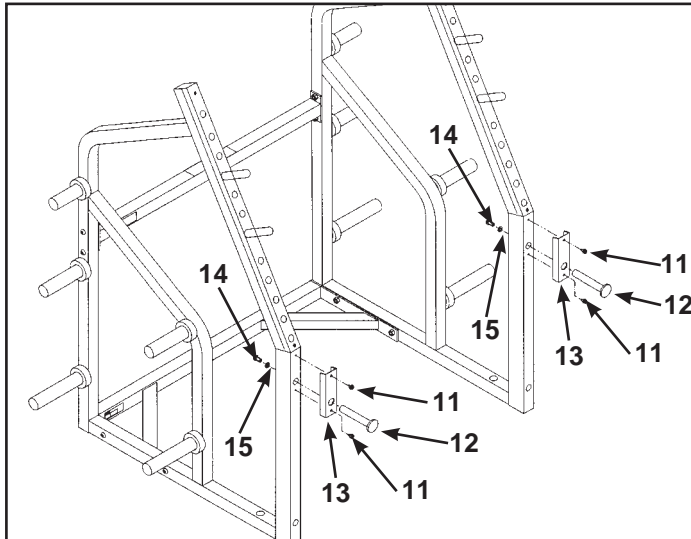

Figure 7
**NOTE:** When upgrading an existing Squat Rack (5570) to include the Adjustable Stop (5572) remove items 11 - 15. See Figure 7.